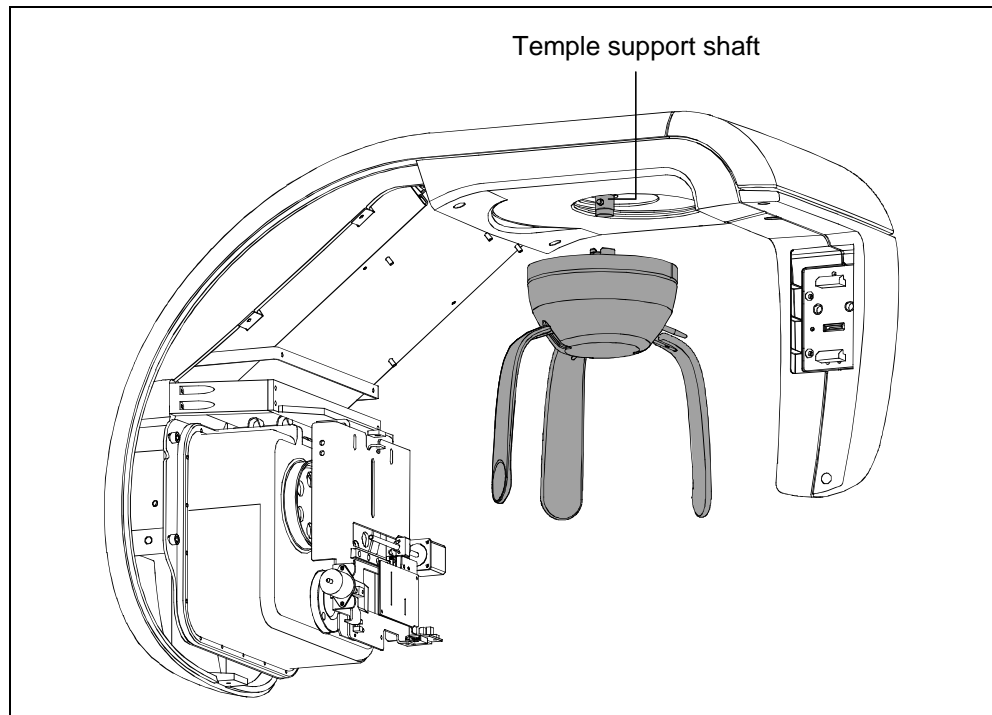

Figure 6-9
- 10.** Mount the temple support group inserting and rotating it in the relevant shaft (Figure 6-9) until the group is locked.